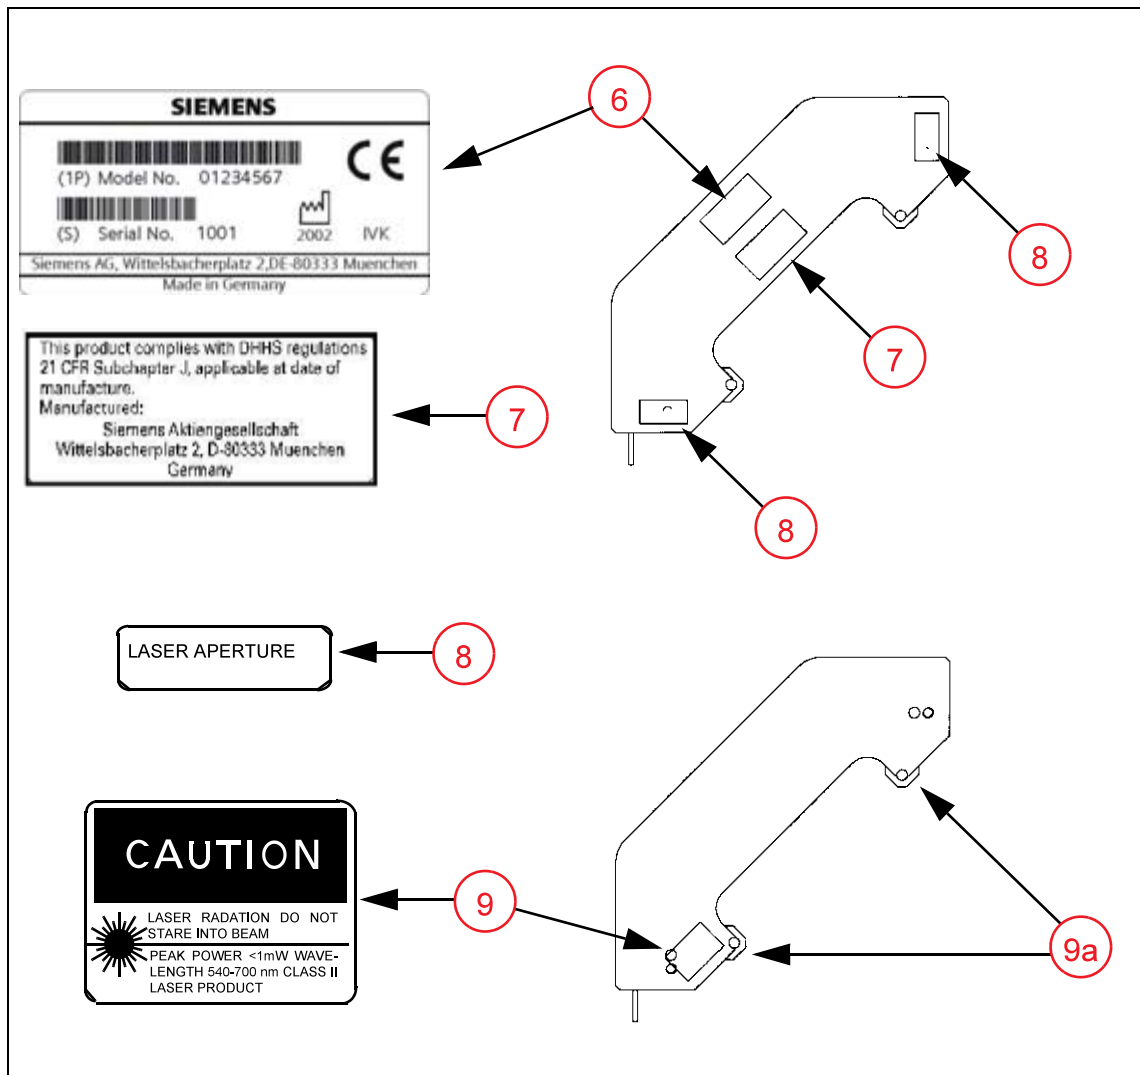
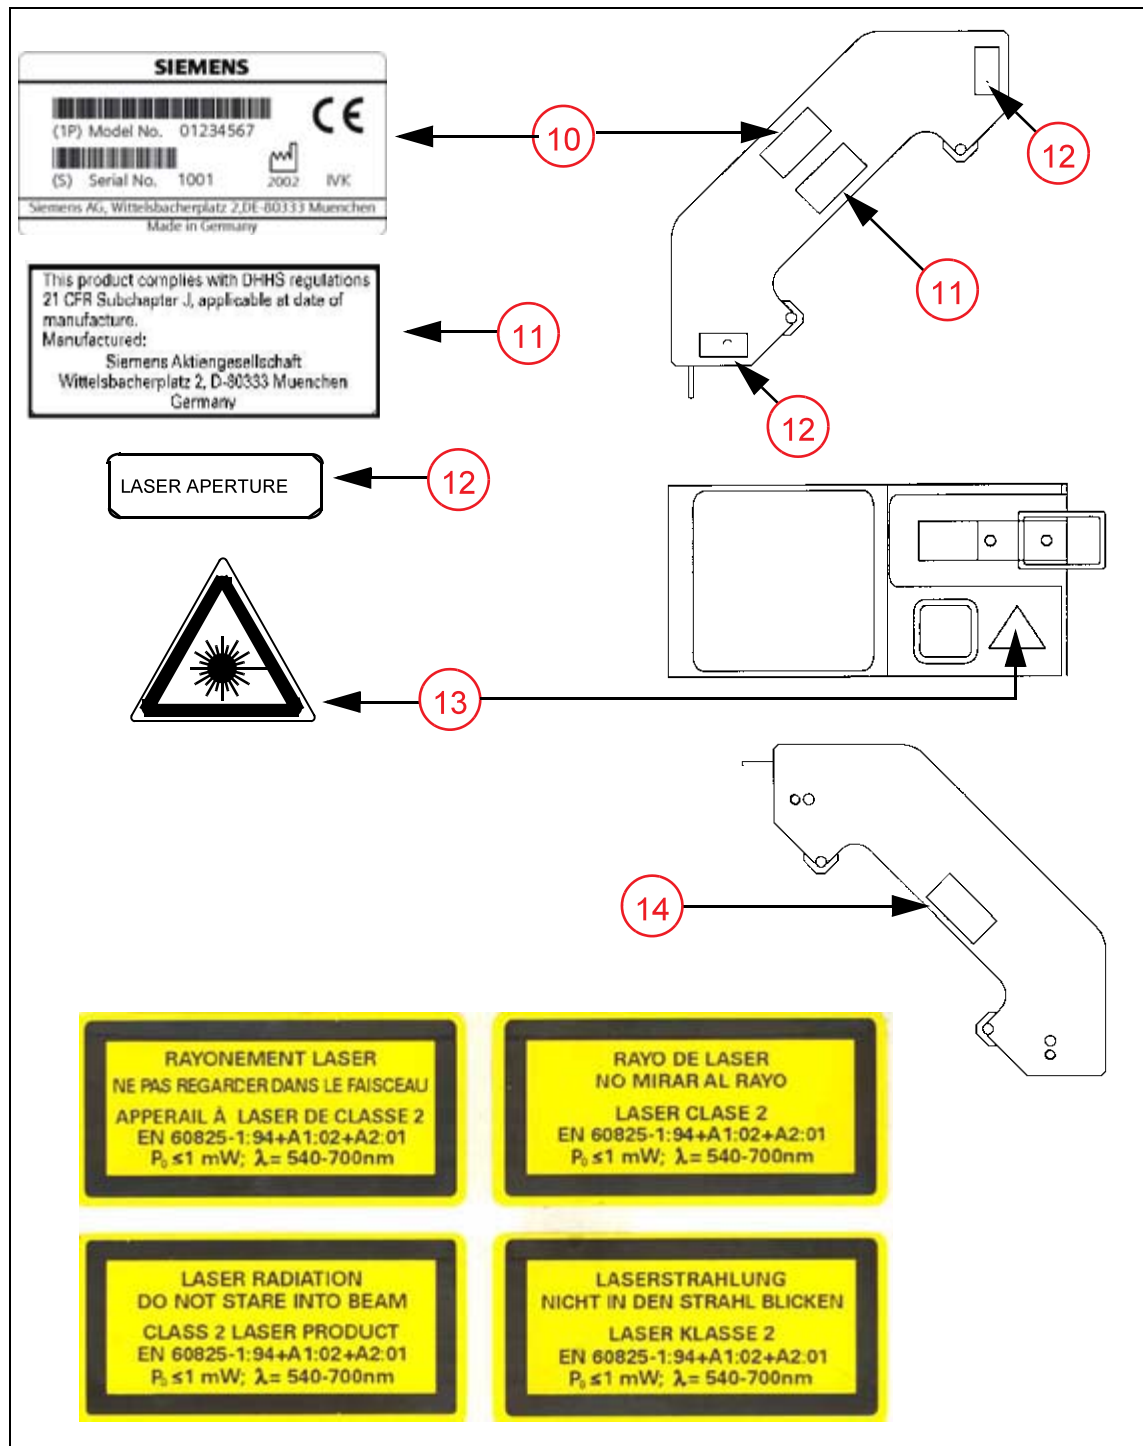

Fig. 4: Affixing labels for the U.S.A.
Fig. 5: Affixing labels for the rest of the world
- Affix labels (8/Fig. 4 / p. 8) and (9/Fig. 4 / p. 8).
- Labels (6/Fig. 4 / p. 8) and (7/Fig. 4 / p. 8) are already affixed.
- Affix labels (13/Fig. 5 / p. 9) to the locations indicated.
- Affix label (14/Fig. 5 / p. 9) in the local language.
- Labels (10/Fig. 5 / p. 9) and (11/Fig. 5 / p. 9) are already affixed.
- For Great Britain only: Also affix labels (12/Fig. 5 / p. 9).
- Check the labeling of the laser light localizer according to \(Fig. 4 / p. 8\) or \(Fig. 5 / p. 9\) of chapter 2.